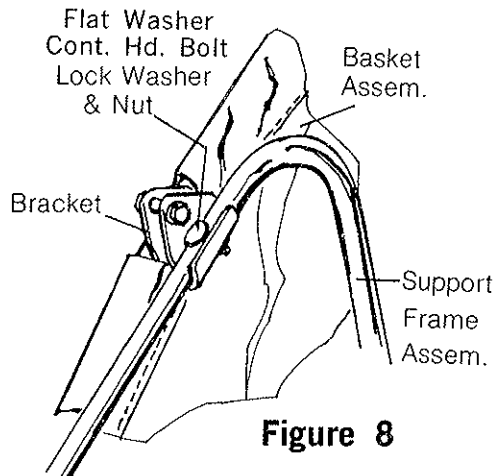

Figure 8
6. Fig. 8 & 13 - Position the Basket Assembly between the Support Frames. Use (2) Contour Hd. Bolts $1/4$ -20 x $1 1/4$ Washers (Internal Tooth Lock), Plain Washer and Hex Plain Nuts. Put the Bolt down thru the Support Frame Tube and center the Bracket which is on the bottom of the Support Frame Tube, then tighten in place with the Bolt, Washer and Nut (Both sides).